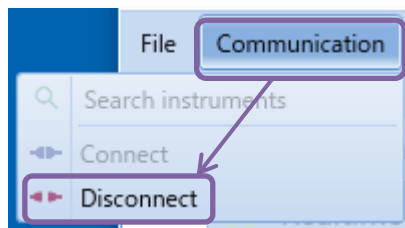

Figure 6.15 Terminating communication
- (2) Stop communication with the instrument by choosing [Communication > Disconnect] and to switch it over to “stand-by status”. (Figure 6.15)